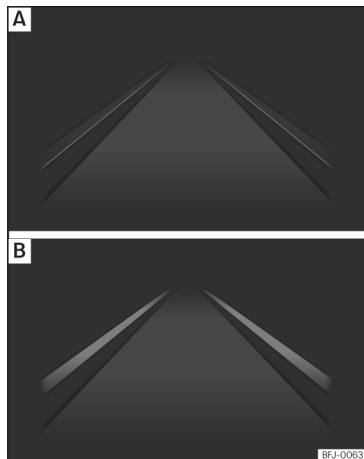

Fig. 271 On the instrument panel display: Indication on the Lane Assist system display (example 1).
- **Fig. 271 [A]:** The system is active, but not available, either because the minimum speed has not been reached or because the lane lines are not recognised.
- **Fig. 271 [B]:** The system is active and available, both lane lines are recognised. The steering angle is not being corrected at this moment.